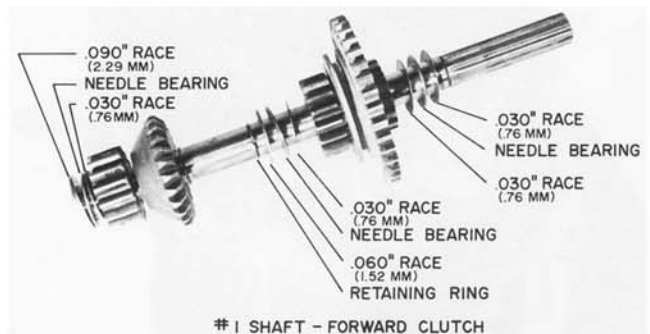

Figure 24
29. #1 shaft assembly removed. See fig 24.